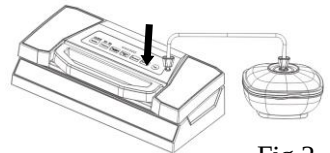

Fig.2
5. Press the canister button to start vacuuming— **Fig. 2**. To ensure there is no air leaking between the cover and the canister, use your hand to push down the cover at the beginning of the vacuuming work. The machine will stop automatically when enough vacuum pressure is achieved.